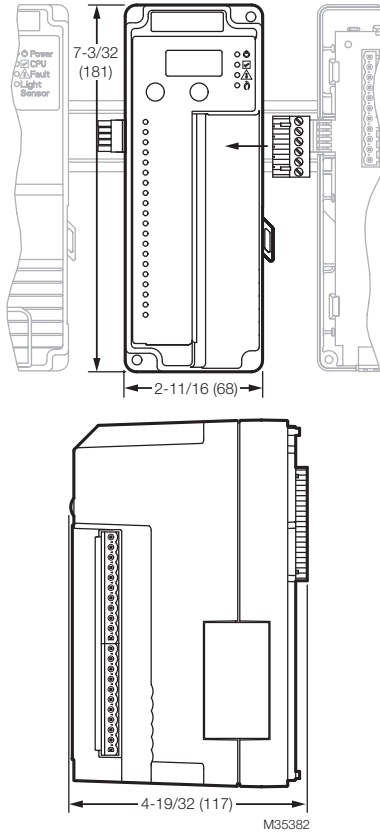

Fig. 1. Mounting dimensions of analog I/O module in in. (mm).
**Dimensions:** Refer to Fig. 1.